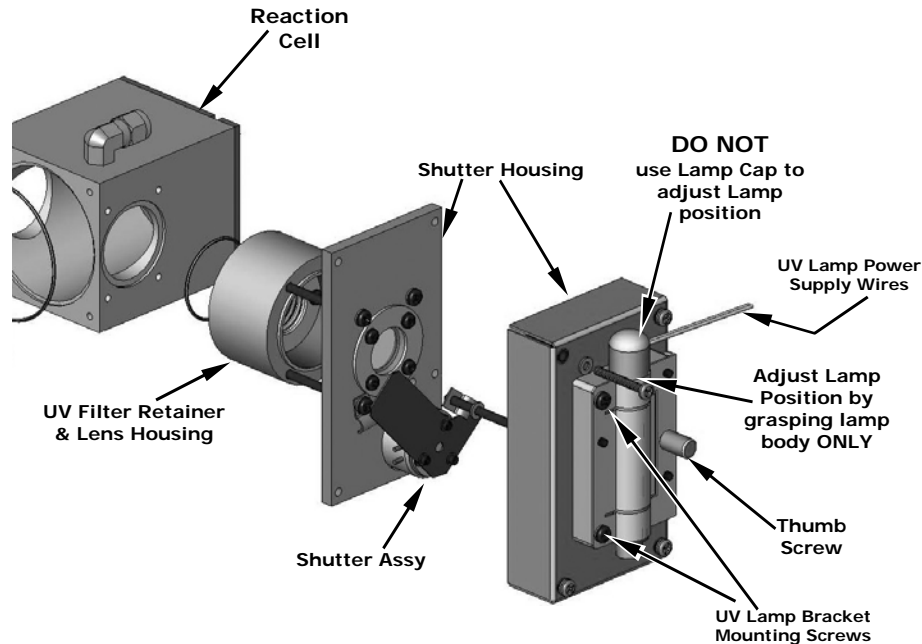

Figure 11-11: Shutter Assembly - Exploded View
2. Slightly loosen the large brass thumbscrew located on the shutter housing (see Figure 11-11) so that the lamp can be moved.
**DO NOT grasp the UV lamp by its cap when changing its position (see Figure 11-11). Always grasp the main body of the lamp.**
3. Loosen, but do not remove the two UV lamp bracket screws and the large brass thumbscrew located on the shutter housing (see Figure 11-11) so that the lamp can be moved.